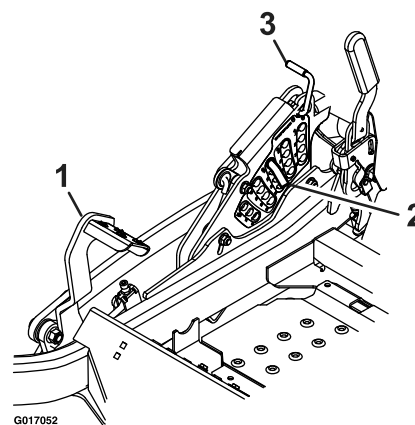

Figure 26
5. Push the foot pedal all the way forward and the deck will latch at the 5 1/2 inch (14 cm) transport position (Figure 26).